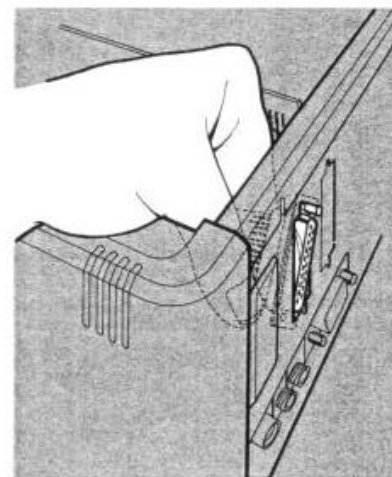

Figure 2-6. Positioning Connector In Back Panel
8. Insert the "D"-shaped connector from inside the computer through the back panel opening as shown in Figure 2-6. The screw lock should be seated in the small notch in the back panel opening, and the hex shaped screw lock head should protrude out the back of the case.